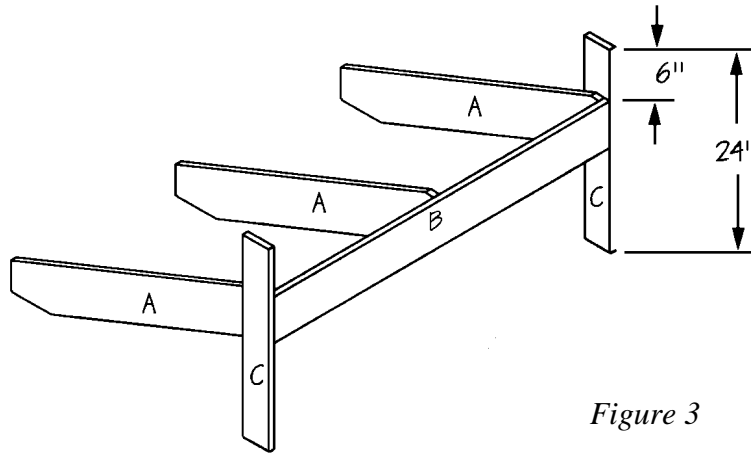

Figure 3
4. Cut two Seat Sides (C) from 1 x 4 pine, each measuring 24 inches.
5. Turn the assembly right side up. Follow *Figure 3* to connect the Seat Sides (C) to the Seat Braces (A), attaching them 6 inches from the top edge of the Seat Sides (C) and flush with the Seat Trim (B) on the front. Use two 2” carriage bolts to secure each of the joints, spacing them about 3 inches apart.